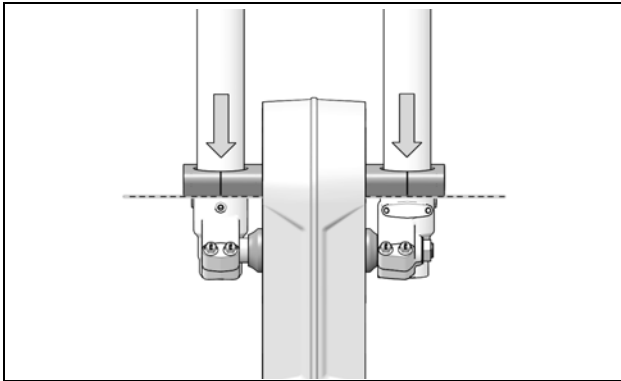

Figure 21
- Apply pressure to both sides of the ski assembly to lower the clamps as much as possible on the fork. Tighten clamp assembly bolts to 25N-m [18 lb-ft]. of torque. Figure 21.